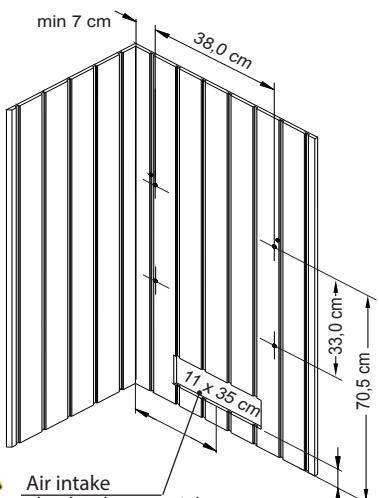

Fig. 2
2. Screw 4 fixing screws acc. Fig. 2 centrally into the cabin wall over the air inlet opening so that there is still 3 mm clearance between the wall and the screw head.